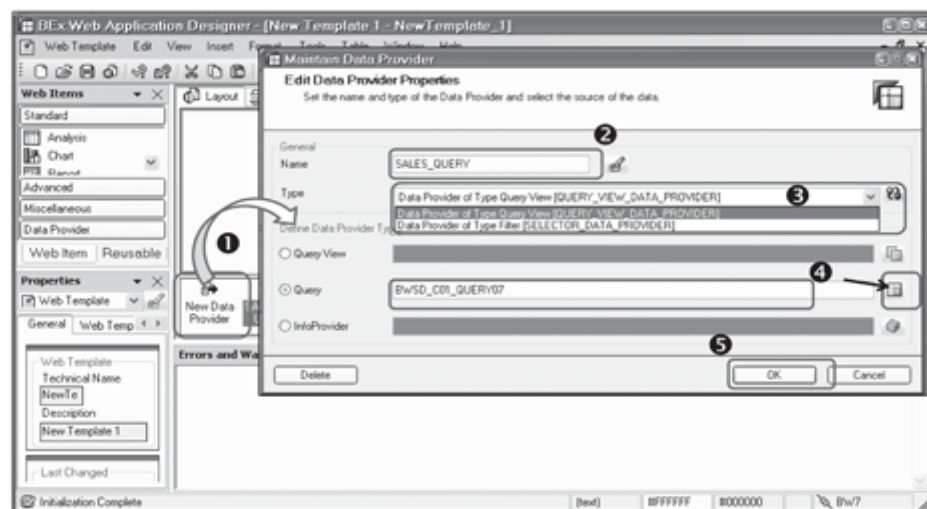

Figure 11.4 Create Data Provider
Provider icon as shown in ❶ of Figure 11.4. A pop-up box titled Maintain Data Provider appears.
Give a name to the data provider (see ❷ of Figure 11.4). This data provider is referred to by different web items in the query using this name.
There can be different types of data providers. The queries defined in BEx query designer, query views, query filters, and SAP NetWeaver BW InfoProviders can be used as data providers in a web template. The dropdown shown in ❸ of Figure 11.4 allows you to select the data provider type. The Data Provider of Type Filter option is normally used while creating planning applications. The use of this type of data provider is discussed in Chapter 12, Integrated Planning.
If you select a data provider of type Query View, you can further select an option among a Query View, a Query, or an InfoProvider. For this example scenario, select the Query option, and select the query that should be used as a data provider using the input help button shown in ❹ of Figure 11.4.
Click OK (see ❺ of Figure 11.4) to complete the definition of the data provider and to return to the web template layout screen.